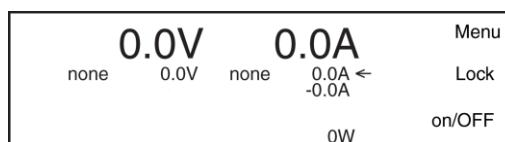

Figure 8.1: At the right side of the display, the 3 main menu items can be chosen.
- After switching on the unit, the right side of the display shows the texts 'Menu', 'Lock' and 'on/Off', see Figure 8.1. Press the upper push button right from the text 'Menu' to enter the menu of the unit.